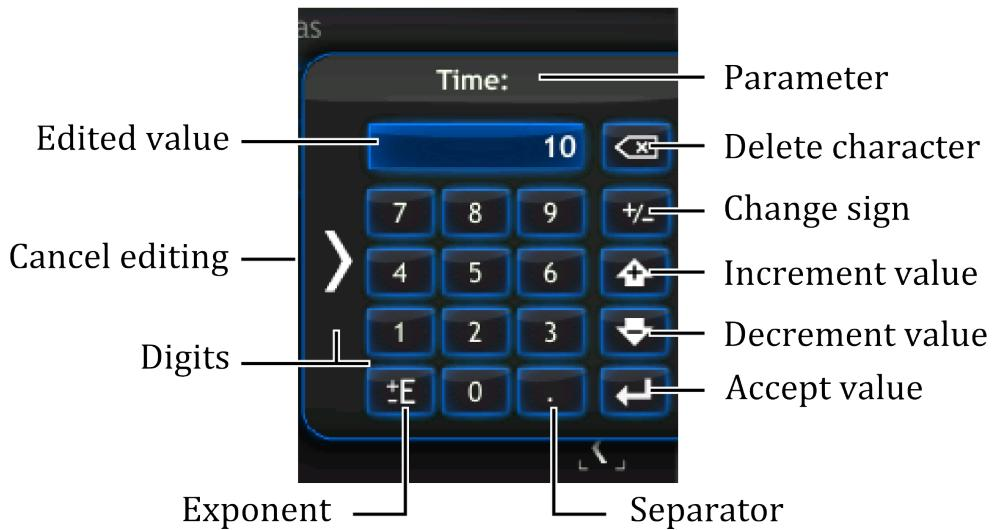

Figure 3.5: Numeric keyboard
Numeric values can be entered via the numeric keyboard. It consists of the numbers 0 to 9 and additional function keys to facilitate data entry and editing of the current data. The numeric keyboard is shown in Figure 3.5.
4. After entering the value, it is possible to modify the sign of mantissa and the sign of exponent by using the **Exponent** button or the **Change sign** button (see Figure 3.5).